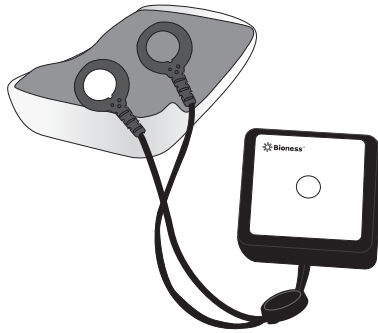

Figure 13-3: Connecting the tester to the EPT
1. Connect the Tester snaps to the EPT plug holes. See Figure 13-3.